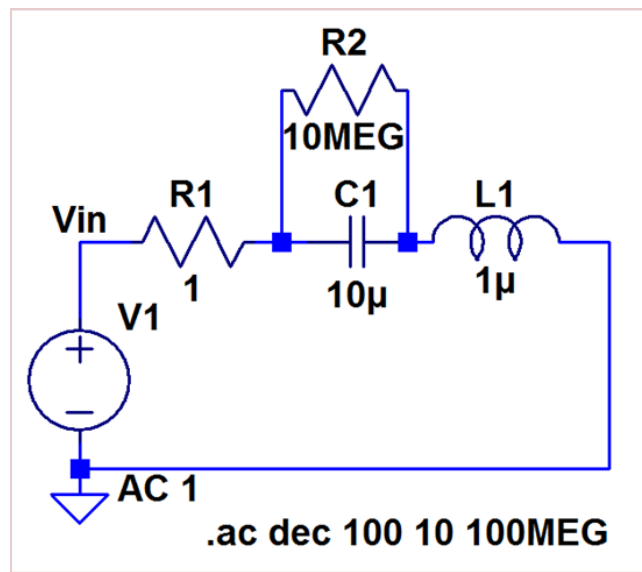

Figure 6. Schematic for Prelab #1, step 2.
2. Add the parasitic components as shown in Fig. 6. Note that the AC sweep values have changed to make it easier to see the effect of the inductor. Make a plot of impedance vs. frequency as described in the previous step. **(Schematic, Plot)**